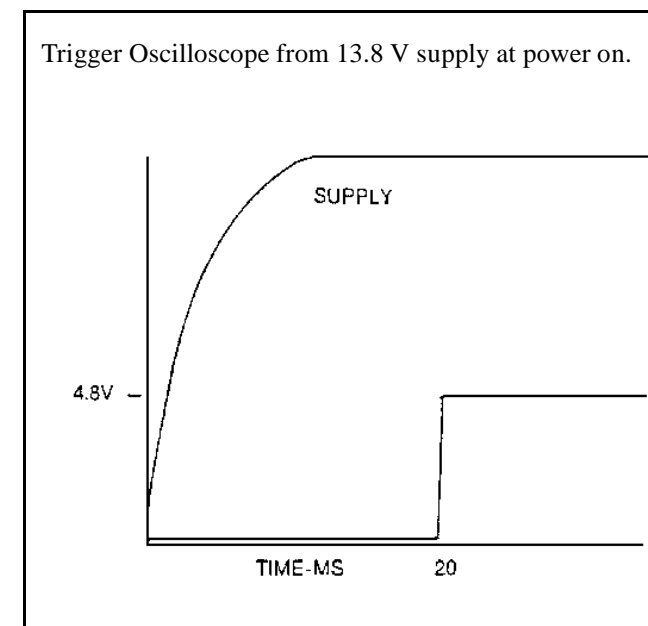

Figure 7 - Microprocessor (U77, Pin 10)
2. Check Power-On Reset on U77, Pin 10 (see Figure 7). If not present, check Regulator U63, Pin 2 and transistor Q21.